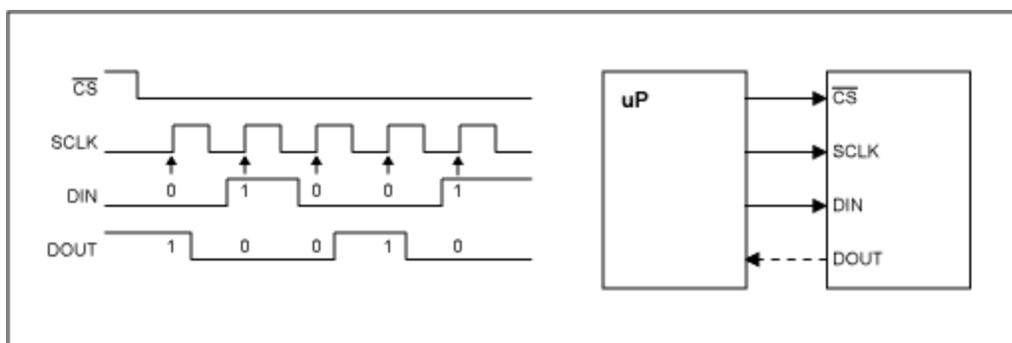

Figure 1. Signals and timing of the SPI-interface.
**Figure 1** illustrates the timing of these signals. The SPI-specification has a clock polarity (CPOL) and a clock phase (CPHA) bit. Figure 1 relates to the most common combination of these bits, CPOL = 0 (data-transfer on the rising clock edge) and CPHA = 0 (clock transitions in the middle of bit timing).